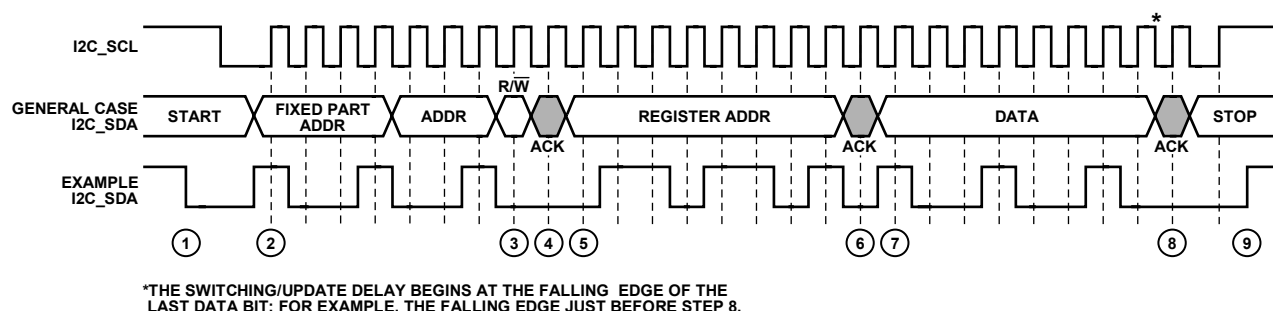

Figure 29. I²C Write Diagram
To write data to the AD8191A register set, an I²C master (such as a microcontroller) needs to send the appropriate control signals to the AD8191A slave device. The signals are controlled by the I²C master, unless otherwise specified. For a diagram of the procedure, see Figure 29. The steps for a write procedure are as follows:
3. Send the write indicator bit (0).
- 9a. Send a stop condition (while holding the I2C_SCL line high, pull the I2C_SDA line high) and release control of the bus to end the transaction (shown in Figure 29).
There is a delay between when a user writes to the configuration registers of the AD8191A and when that state change takes physical effect. This update delay occurs regardless of whether the user programs the AD8191A via the serial or the parallel control interface. When using the serial control interface, the update delay begins at the falling edge of I2C_SCL for the last data bit transferred, as shown in Figure 29. When using the parallel control interface, the update delay begins at the transition edge of the relevant parallel interface pin. This update delay is register specific and the times are specified in Table 1.